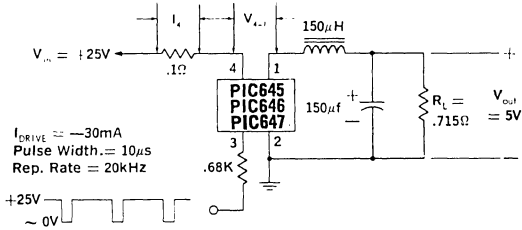

Figure 1. PIC645, 646, 647 Switching Speed Circuit
- The efficiency is a measure of internal power losses and is equal to Output Power divided by Input Power. The switching speed circuit of Figure 1., in which the efficiency is measured, is representative of typical operating conditions for the PIC600 series switching regulators.